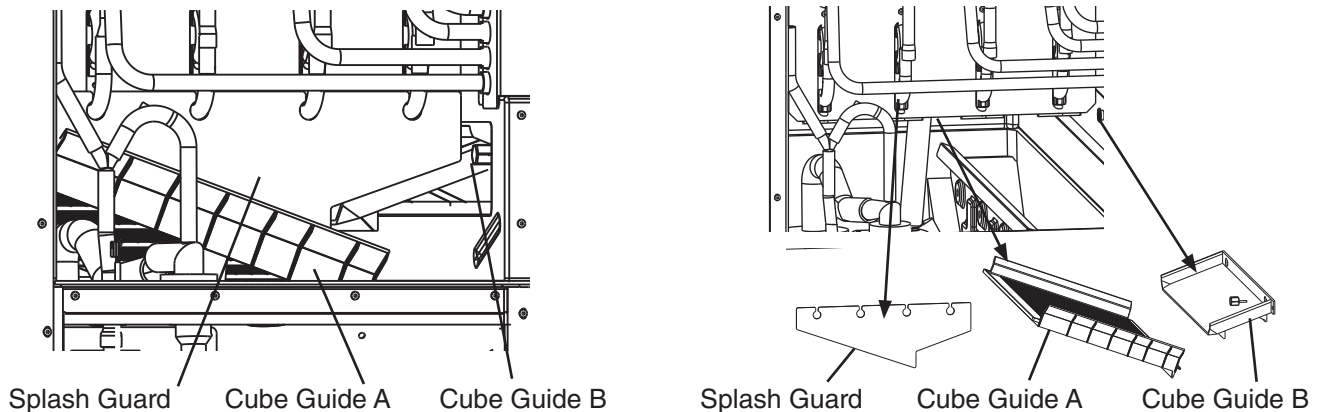

Fig. 26
2c)(1) For **KM-930MAK2** and **KM-1130M_K(Z)2** - Remove the splash guard and cube guide B. See Fig. 26.